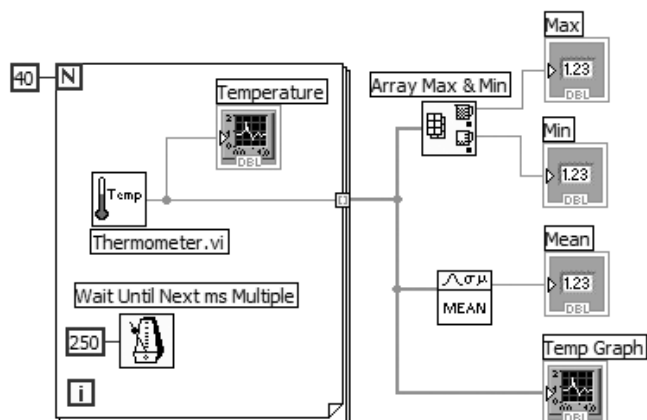

Figure 8.47
4. Build the block diagram shown in Figure 8.47. Make sure to use the Help window to show you the inputs and outputs of these functions, and pay attention to the wire whiskers and tip strips, or you will almost certainly wire to the wrong terminal!